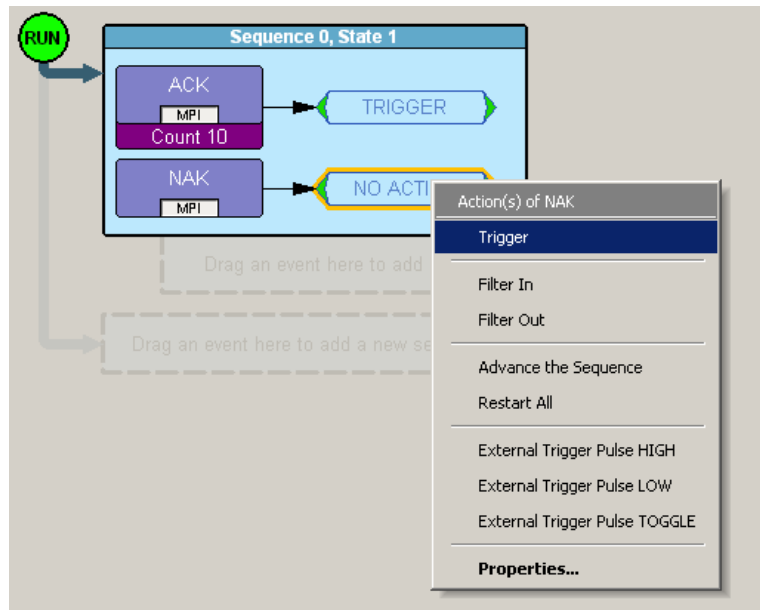

Figure 12.33 Example 3: Assigning the Action
Step 4 Right-click the **NAK** button. From the Action pop-up menu, select **Trigger** (Figure 12.33).